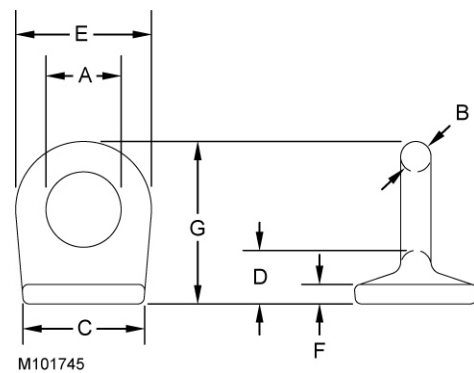

Figure 4-112
See Figure 4-112
1. Do not exceed the approximate capacities listed in Figure 4-112.
2. Make sure the rigging line and the attaching hardware (clips and rope connectors) are rated for the approximate capacities shown in Figure 4-112.